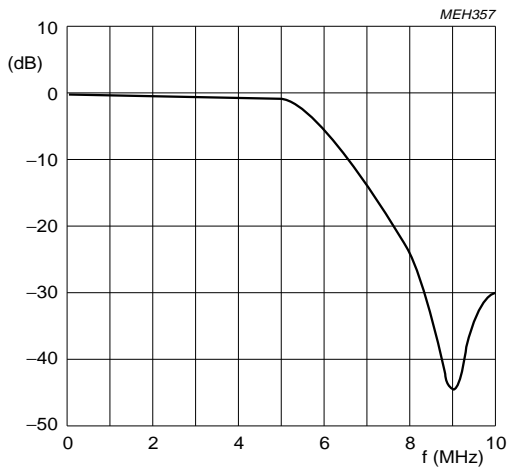

Fig.13 Characteristics of low-pass post-filters; without compensation of DC hold.
(1) Without compensation of the DAC hold characteristic (see Fig.13).